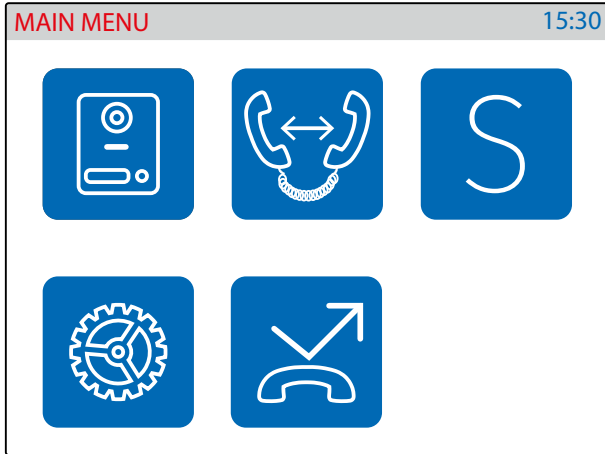
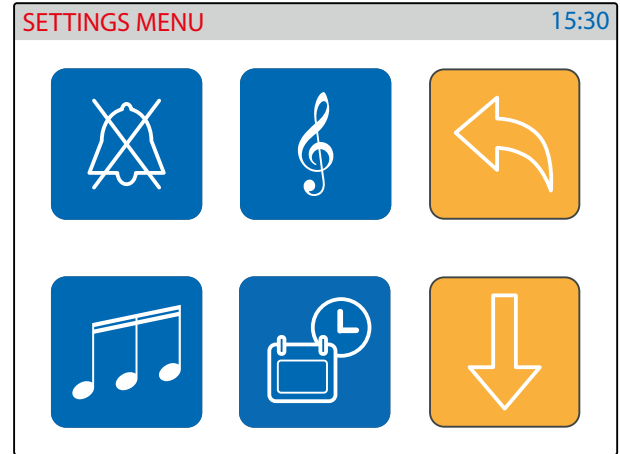
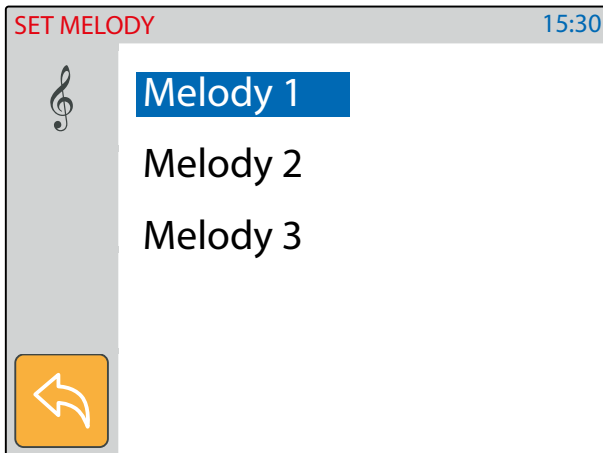

Fig. 4 Main menu
Fig. 5 Settings menu 1/2
Fig. 9 Listen the available melodies
- Programmable settings are: Privacy duration, Melody, Number of Rings and Date & Time (Fig. 5)
If the screen is black, first tap on it to see the main menu (Fig. 4) then tap on the gear icon to open the settings menu (Fig. 5)
- Tap on the privacy icon (Fig. 5 on page 16).
- Tap on the melody icon (Fig. 5 on page 16), the current melody is shown, tap on a melody to listen to it (Fig. 9) then tap on the tick button to confirm the selected melody.
- Tap on the rings icon (Fig. 5 on page 16).
- Tap on the date & time icon (Fig. 5 on page 16)